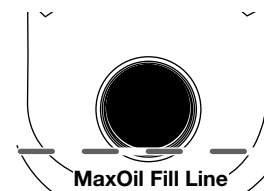

Fig. 27
5. Look into the oil fill hole, use a flashlight if needed. The oil should be just touching the inner most thread (Fig. 27).
6. If the oil level is not touching the inner most thread on the oil fill hole, add a small amount of oil to the oil fill hole and recheck (Fig. 27). Repeat this procedure until the oil level reaches the inner most thread on the oil fill hole.